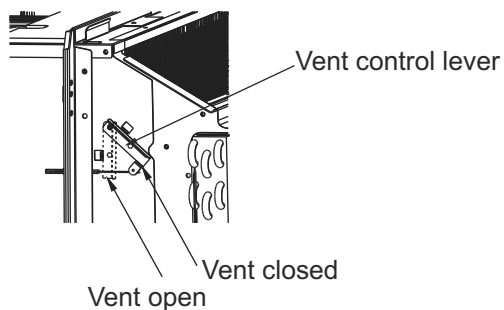

Fig.6
- Rotate the vent control lever to either open or close the vent door. (See Fig.6)
- Rotate the vent control lever to open the vent door. (See Fig.6)